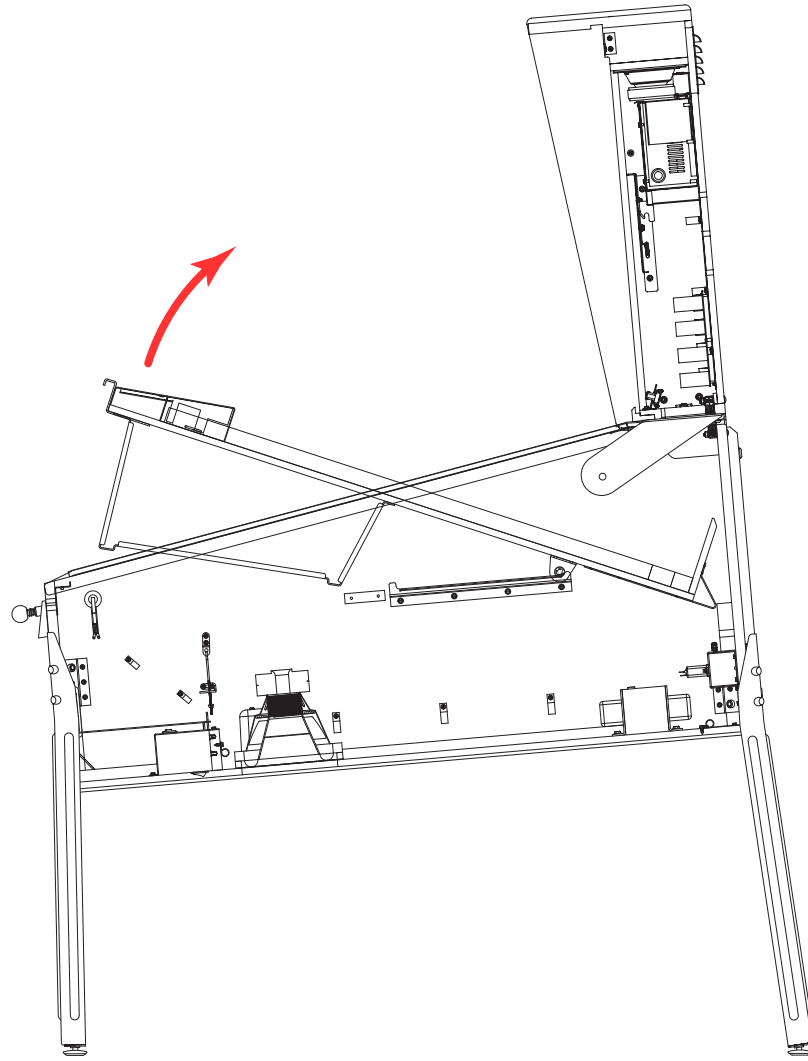
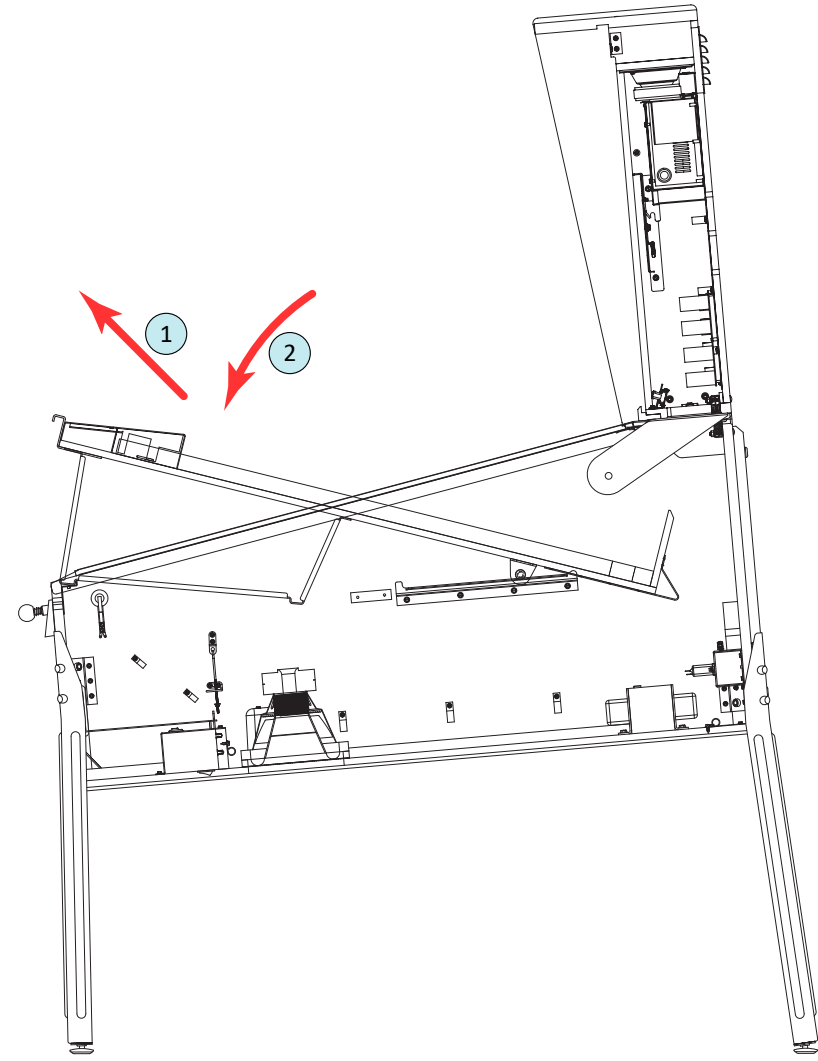

Figure A11. Swing the playfield upward.
Figure A12. Moving the playfield to position 2.
**13)** Grasp the playfield under its bottom arch and swing it upward until the playfield support brackets underneath are fully visible (figure A11). Move the playfield to position 2 (figure A12). Pull it upward and outward until the first pair of feet reach the top of the lockdown bar receiver; then lower the playfield, resting the feet in the steel channel.